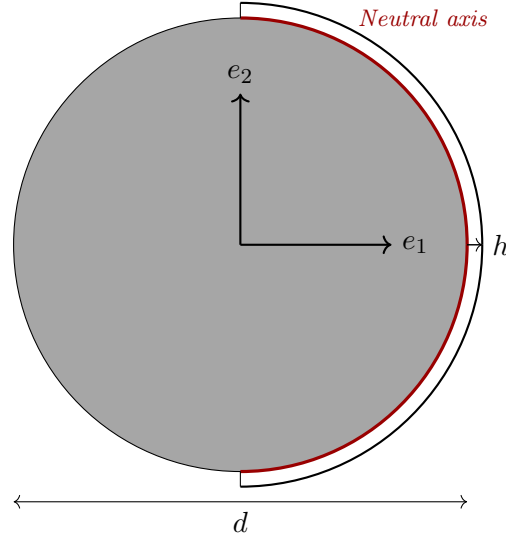

Figure 2: Neutral axis in the deformed configuration.
The geometric set described by **Eq. (3)** corresponds to all material points in the undeformed configuration with a coordinate $X_2 = \frac{L}{\pi} = \frac{d}{2}$. These points define a layer of fibers initially located at the *bottom surface of the beam* along its entire length. When the beam is bent around the mandrel, these fibers deform into a circular arc of radius $R = \frac{L}{\pi}$ and therefore *undergo no axial stretch*. This defines the *neutral axis* of the motion, as illustrated in **Fig. 2**.